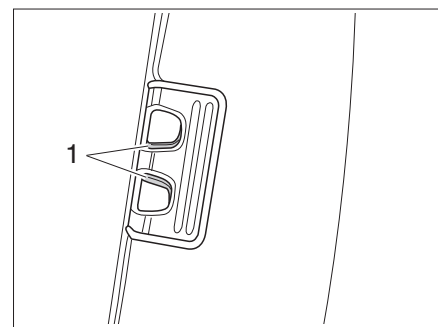

Fig. 18 Roman shade, locking mechanism
- Press the locking mechanism (Fig. 18,1) together and lift it slightly.